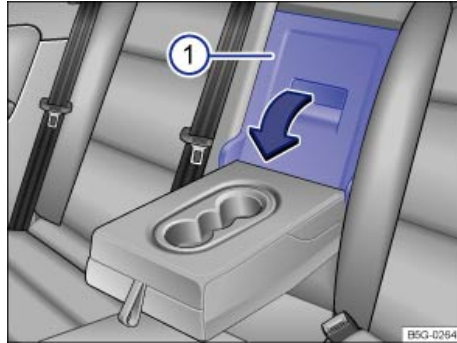

Fig. 94 In the rear seat backrest: Opening the luggage compartment pass-through.
- Pull the release lever in the direction of the arrow ⇒ fig. 94 \(1\) and fold the pass-through cover all the way forward.